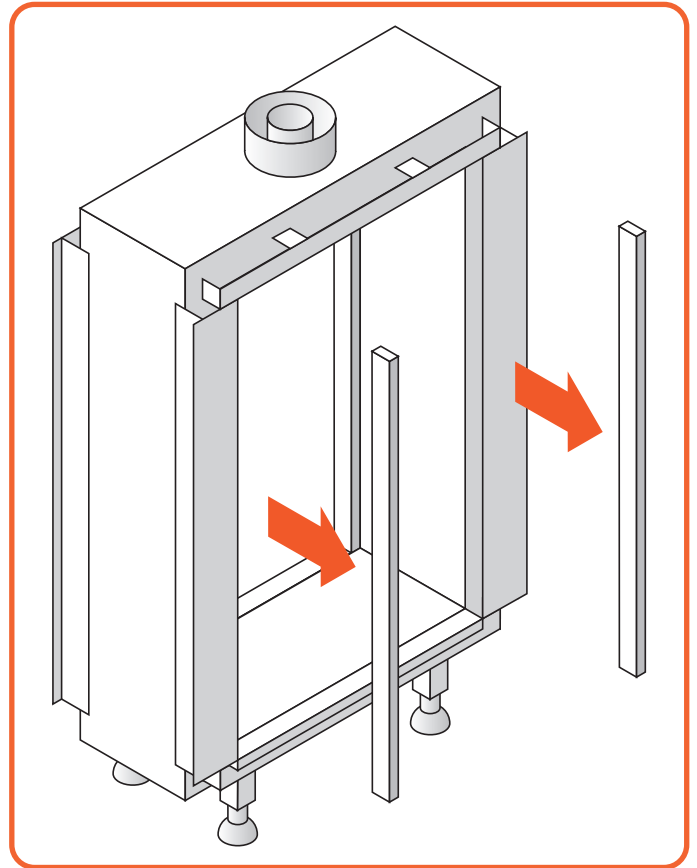
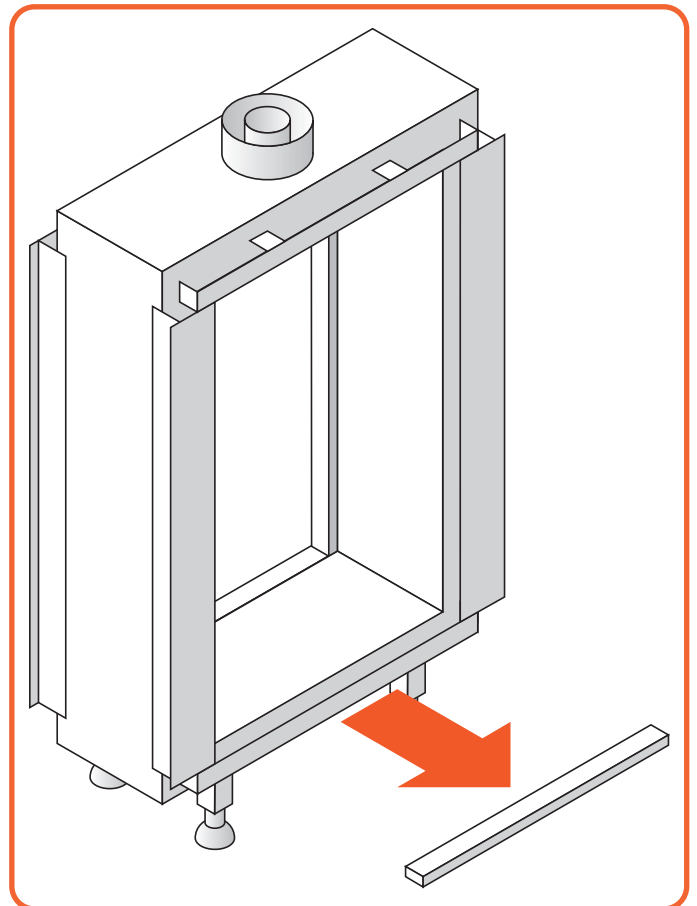

Figure 11.8 - Remove side trims
Figure 11.9 - Remove bottom trim
- Remove both the side trims and bottom trim. They are held by magnets, **Figure 11.8** & **Figure 11.9**.